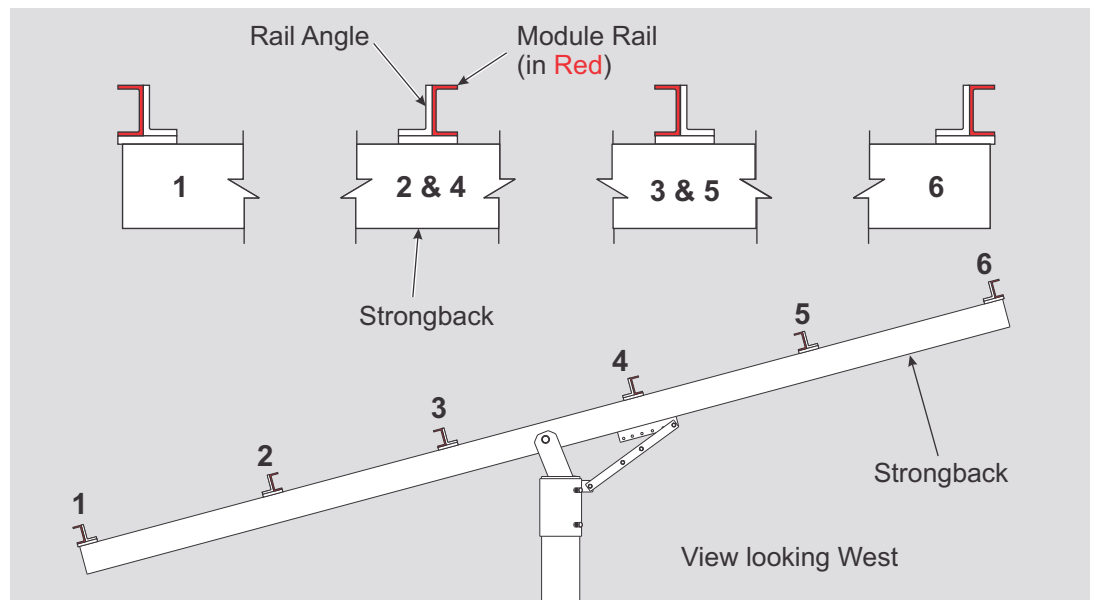
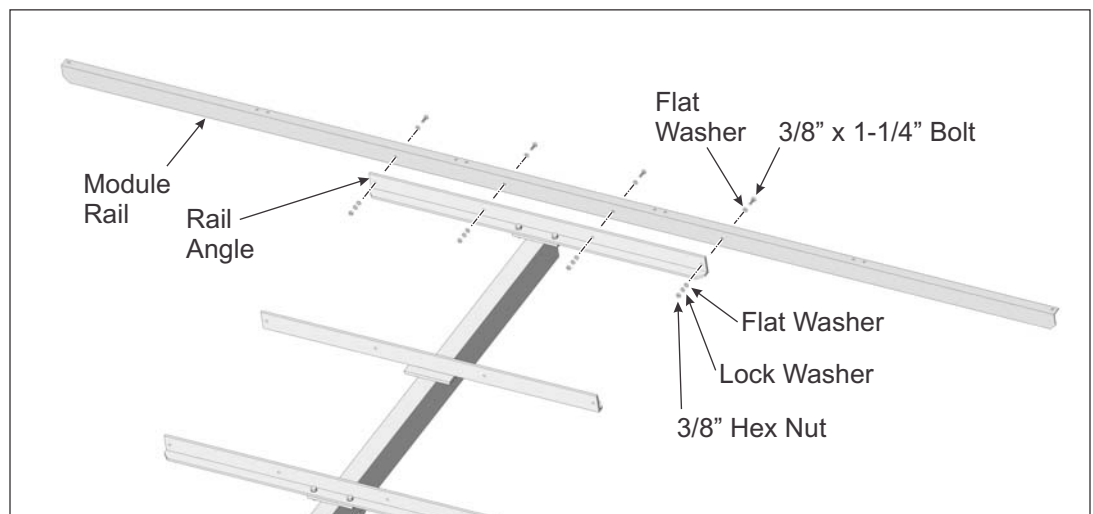

Figure 4-1: Orientation of Module Rails to Strongback
Figure 4-2: Installing Module Rail to Rail Angle
Module Rails must also be properly oriented to the Strongback. If not the PV Modules will not align to the mounting holes of the Module Rails. (See Figure 4-1)
- Referring to Figure 4-1 for orientation of the inboard Module Rails, position the first section of Module Rail (with its angle cut end positioned north) at the northern most position on the Cross-Bars. Align the Module Rail mounting holes with the holes of the Cross-Bar mounting tabs and secure with 3/8" x 1-1/4" bolts and hardware. Finger-tighten for now. (See also Figure 4-2)